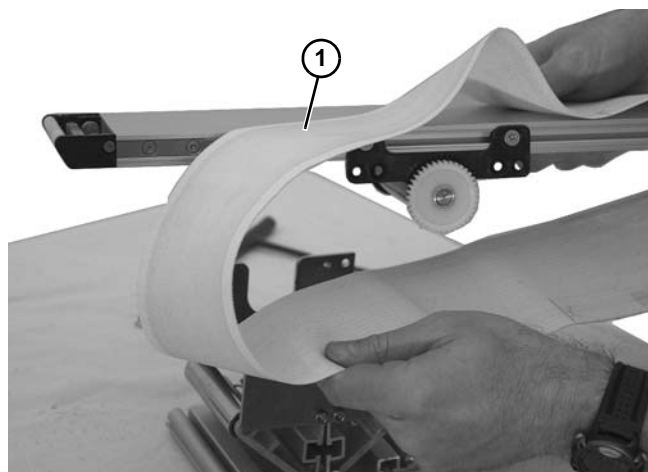

Figure 33
4. Remove belt (Figure 33, item 1). See “Conveyor Belt Replacement” on page 11.